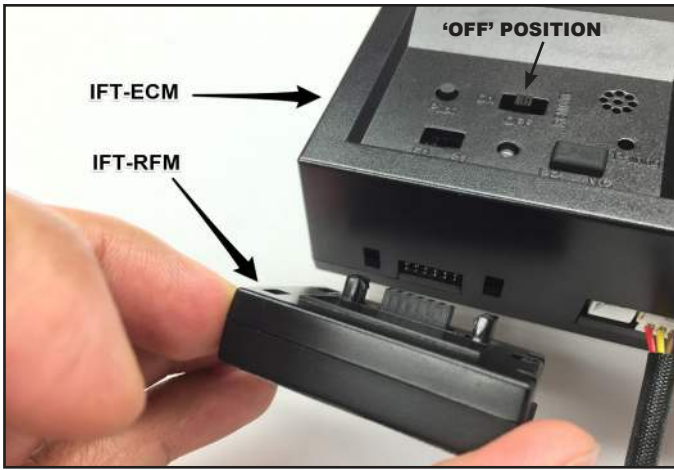

Figure 1. Connect IFT-RFM to IFT-ECM
2. Locate the IntelliFire™ Touch electronic control module (IFT-ECM) in the control cavity of the appliance and move the three-position switch to the OFF position. See Figure 1.
3. Connect the IFT-RFM to the IFT-ECM by aligning the pins and tabs and pushing the IFT-RFM into the IFT-ECM until both tabs snap into position. Ensure the two components are fastened securely to one another. See Figure 1.